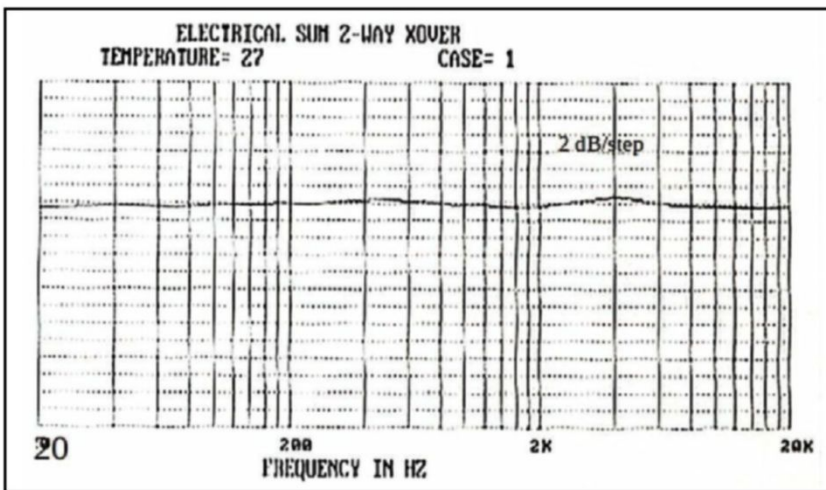
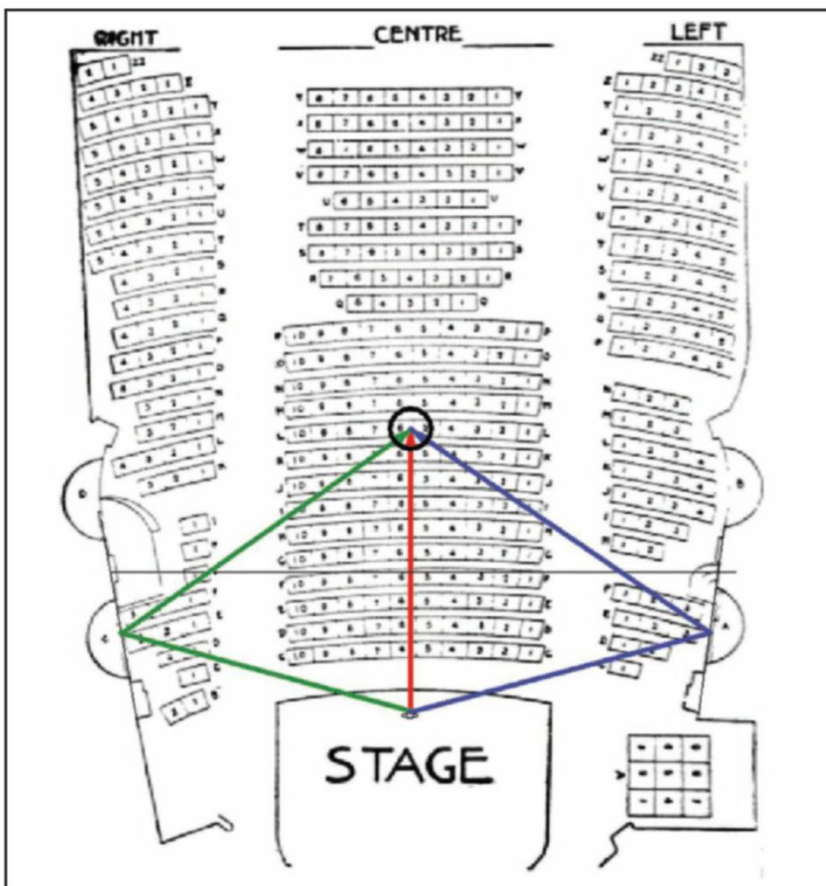

Figure 6: Here is the crossover electrical sum from the model. Note how closely the response here matches the acoustic measurements shown in Figure 2.
Figure 2: The red line represents sound arriving at the listener from in front; blue and green lines represent sound with laterally arriving components.
Figure 6 shows the electrical (not acoustic!) response of the two-way crossover in my own build. The damping resistor for the crossover is missing in this model, yielding a slight treble boost (about 1-1/2dB in the 2kHz to 4kHz frequency range). Observe that the same treble boost is visible in the response graphs shown in Figure 2. This similarity shows correspondence of model and physical crossovers.
The frequency response measurements (Figure 2) show a rise of about 1dB in the tweeter range with the tweeter damping resistor omitted. Some listeners like the sound to be brighter, while others enjoy the flat response obtained by the addition of one shunt resistor in the tweeter circuit, as shown in the schematic (Figure 1). One could also install a "tweeter control" for adjusting tweeter level damping on the speakers, possibly a switch with several settings.
Ever since the beginning of modern architectural acoustics, we have focused on reverberation time (RT) as the most important parameter in auditorium performance (when your only tool is a hammer...). However, during the last decades of the 20th century, other metrics were studied. Arguably the most important of these relates to the direction from which sound arrives at the listeners’ ears. Apparent Source Width (ASW) and Envelopment have been shown by some studies to correlate better with listener preferences for concert halls than any other metric. Both of these are related to the sense of being surrounded by the performers rather than hearing them from afar. Both are related to the Lateral Energy Fraction (LEF), which is the fraction of the sound energy reaching the listener’s ears that originates from the sides rather than the front (**Figure 2**).